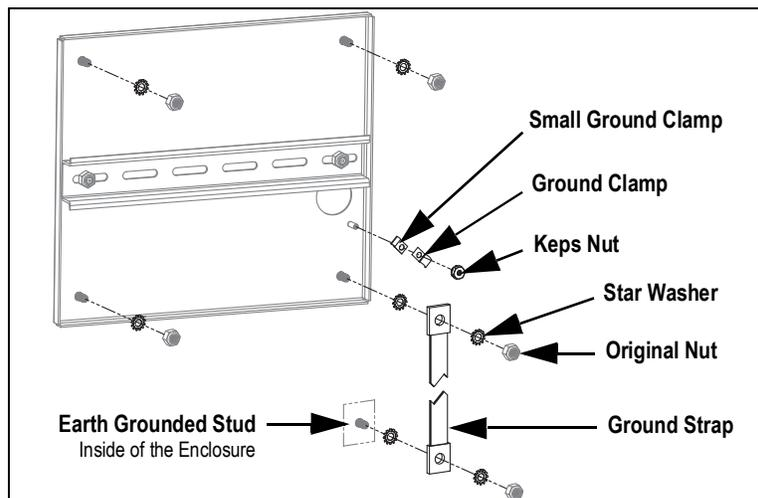

Figure 1. Backplate Shield Grounding
3. Secure the other end of the ground strap to an earth grounded stud inside of the enclosure with star washers on either side of the ground strap (Figure 1). Make sure there is an appropriate amount of slack in the grounding strap for opening and closing the enclosure door.